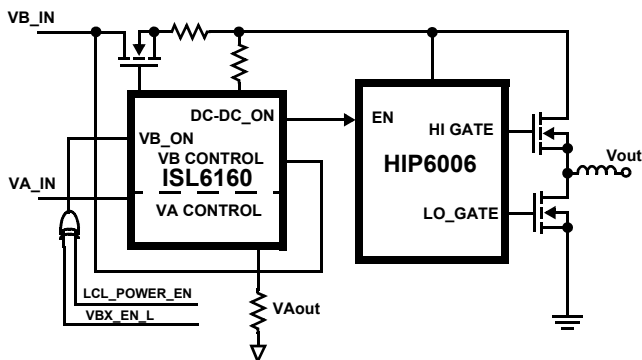

FIGURE 2. SIMPLIFIED ISL6160EVAL2 BLOCK DIAGRAM
On the IM the ISL6160 is necessarily paired with a DC-DC converter to convert 12V to a lower usable voltage for the application circuitry. Figure 2 shows a block diagram of a complete IM power sequencer and power supply using the ISL6160 and a HIP6006, single output PWM DC-DC converter.
Available from Intersil is the ISL6160EVAL2. The ISL6160EVAL2 is a complete InfiniBand Class I (non isolated) power topology evaluation platform consisting of the ISL6160 and the HIP6006 single output PWM controller. See Figure 2 for a simplified block diagram of the ISL6160EVAL2 platform. This evaluation platform allows the Infiniband Module (IM) power supply designer to evaluate the concept of this design and apply it to a specific IM power requirement. The evaluation platform is configured for 5V  $V_{out}$  and 3A  $I_{out}$  capability and exhibits a 92% total efficiency. See Figures 19 and 20 for ISL6160EVAL2 turn-on and turn-off waveforms.